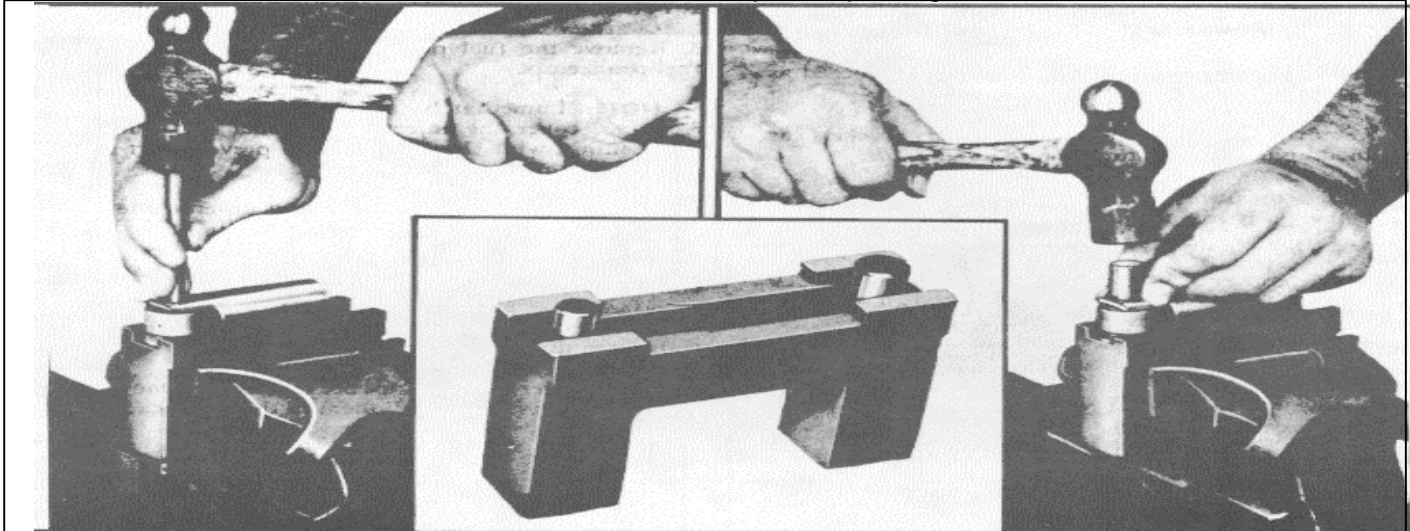

Fig. 7
- (1) Clamp fixture J 5840-01 securely in a vise as shown in Fig. 7. Then place the cam follower in the groove in the top of the fixture, with the follower pin resting on top of the corresponding size plunger in the fixture.
- (2) Drive the pin from the roller with a suitable drift. Exercise caution in removing the cam follower body and roller from the fixture as the roller pin is seated on a spring-loaded plunger in the fixture.
- (3) Before installing the new roller and pin, remove the preservative by washing the parts with clean lubricating oil or Cindol 1705 and wipe dry. Do not use fuel oil. After washing the parts, lubricate the roller and pin with Cindol 1705.
- (4) Position the cam follower body in the groove of the fixture, with the small plunger extending through the roller pin hole in the lower leg of the follower body.
- (5) Position the new cam roller in the cam follower body. When released, the plunger